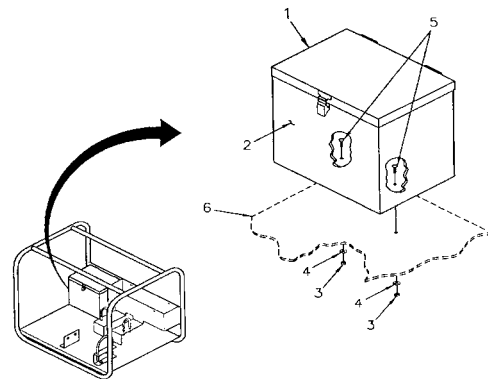

Figure 4-15. Tool Box Assembly
- (1) Open cover (1, Figure 4-15) of tool box (2).
- (2) Remove two nuts (3), two lockwashers (4) and two screws (5).
- (3) Remove toolbox (2) from frame assembly (6).